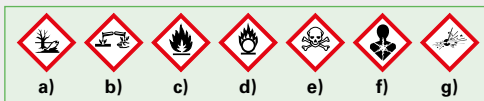

Figure 1: Hazard pictograms
8. Name the designations for the hazard pictograms shown in **Figure 1** from **a)** to **g)**.